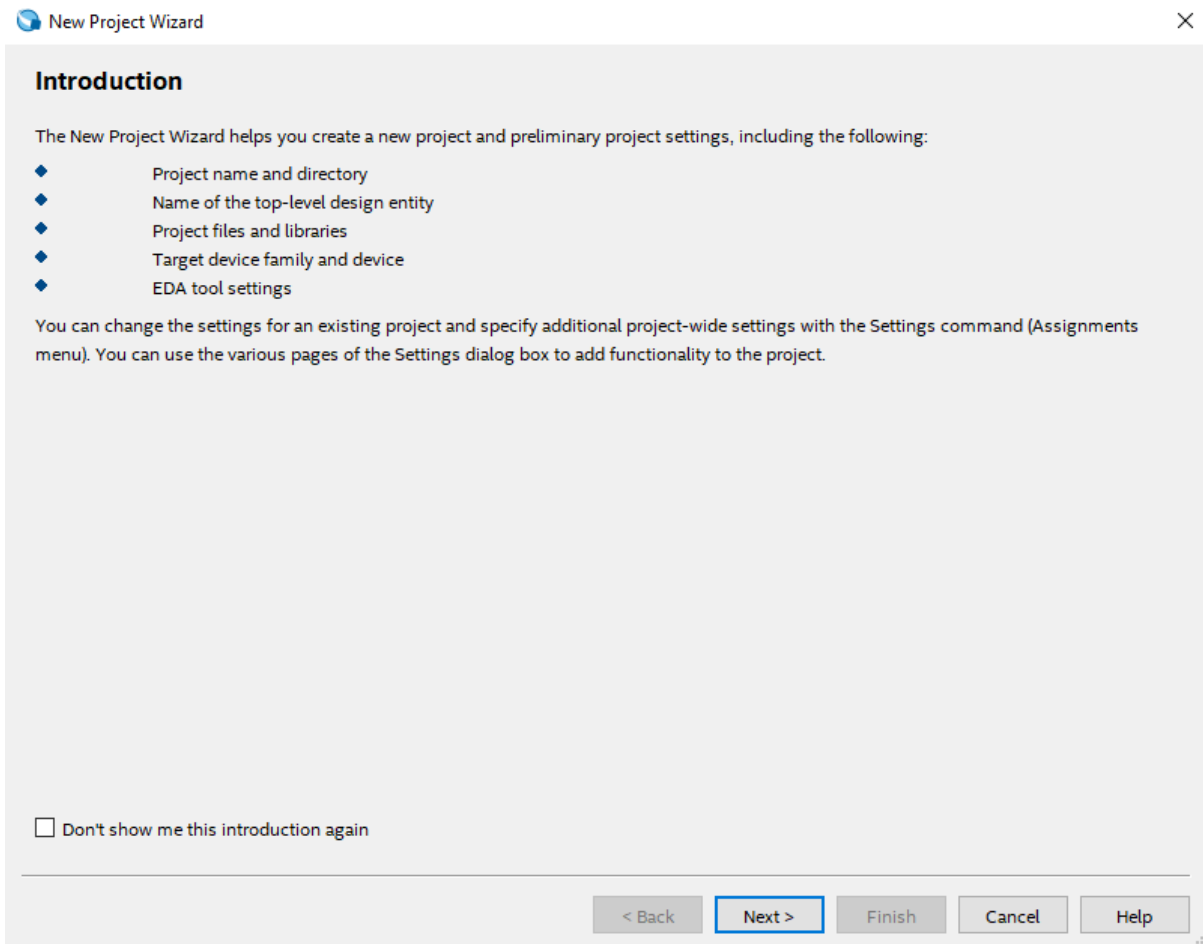

Figure 5 – Tasks performed by the wizard
- (a) Select **File → New Project Wizard** to reach the window in Figure 5, which indicates the capability of this wizard. Click **Next** to get the window shown in Figure 6.